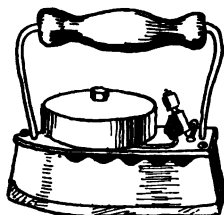

FIG. 97. Alcohol iron.
**183. Alcohol Irons.** Alcohol irons have a tank attached to them which holds about a half pint of alcohol. This iron is similar to the gasoline iron shown in Fig. 97. Some alcohol is turned into the iron, and then the valve is closed. This alcohol is lighted with a match and used to heat the generator
**184. Gasoline Irons.** There are two kinds of gasoline irons. In one the tank is a part of the iron (Fig. 97), and in the other the tank is many feet away, where the gasoline is changed to gas by a cold-process gasoline gas machine and connected with the iron by a flexible tube. These latter operate like other gas irons.